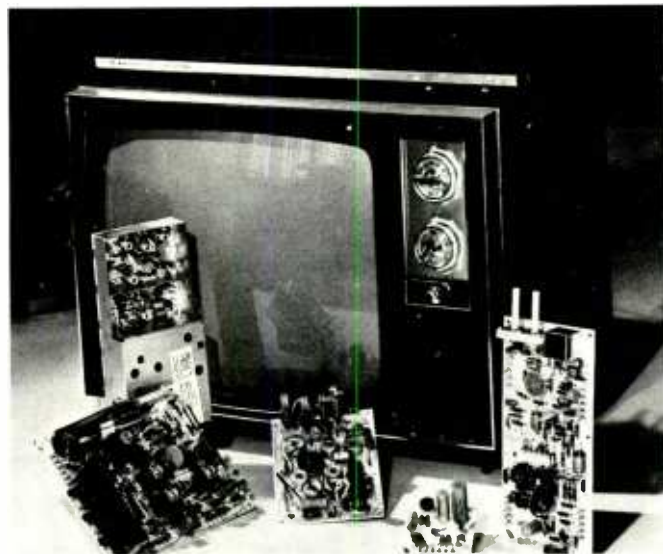

Fig. 3. Plug-in modules for Quasar II, latest Motorola color chassis. Some tubes are used although original Quasar is all solid-state.
*Motorola* began the modular trend four years ago, with the first Quasar. That basic chassis remains in the line for 1971. The newer version is called Quasar II. It is pictured in Fig. 3.